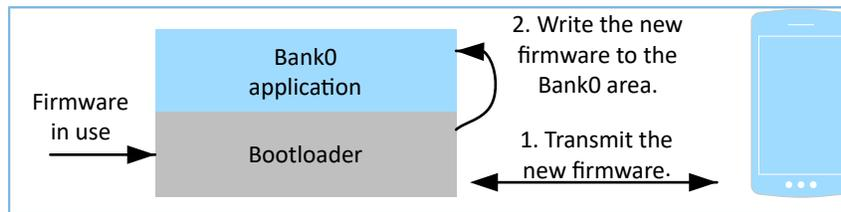

Figure 1-3 Schematic diagram of non-background single-bank DFU mode
- The schematic diagram of the non-background single-bank DFU mode is shown in Figure 1-3. Bootloader receives the firmware from the host and writes the new firmware to the Bank0 area. After writing, check the new firmware. After the check passes, jump to and run the Bank0 application.